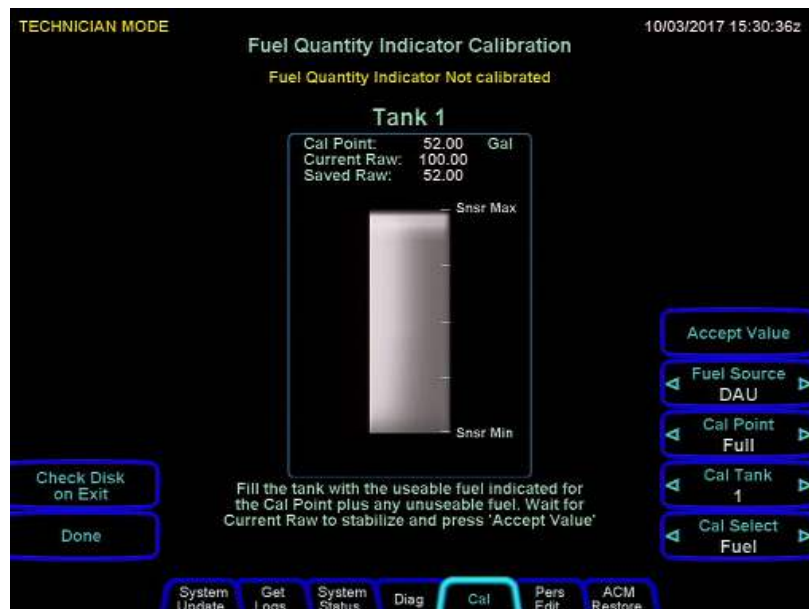

Figure 11: Full Calibration Point Example
31. Select the "Accept Value" LSK. See **Figure 11:** for example of display.